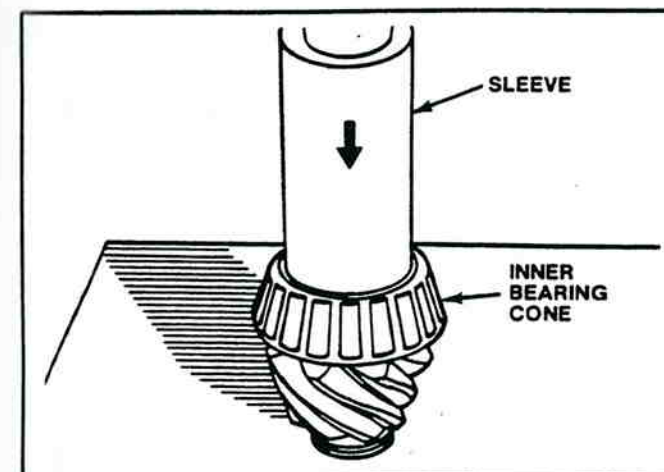

Figure 2-41. Pressing On Inner Bearing Cone.
4. Put the drive pinion in a press, gear head (teeth) toward the bottom (Figure 2-41).